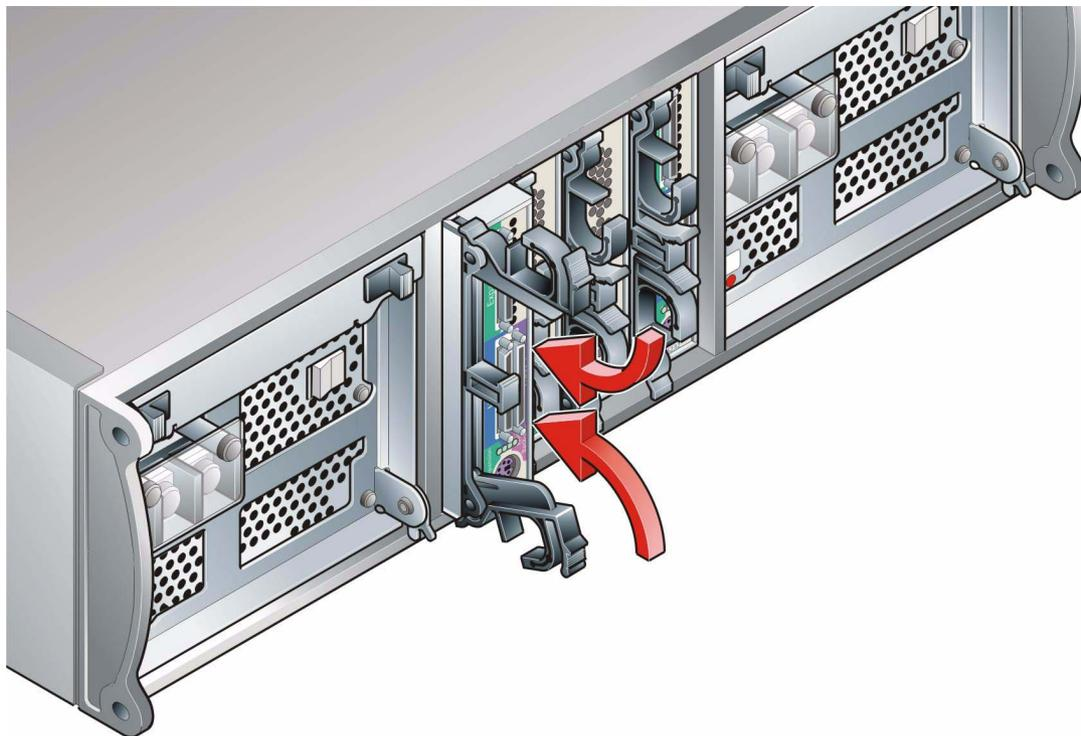

Figure 2-12 Installing an I/O Module
- 3 Cam the module home by manually closing the latches, see Figure 2-12.